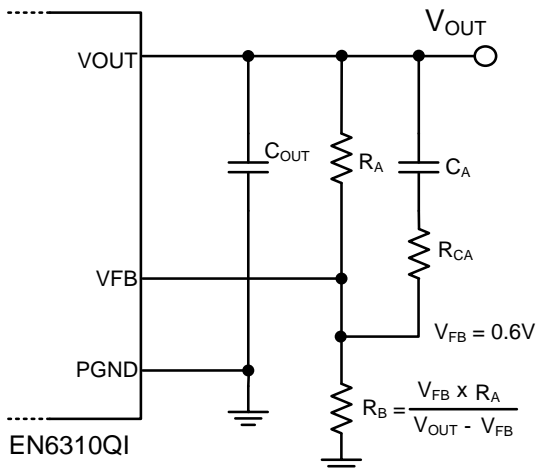

Figure 2. External Compensation
- 2) **Output Voltage Settings (J4)** – With a jumper placed as shown, output voltage is set to 1.2V. The jumper may be switched to change the output voltage from left to right (3.3V, 1.8V, 1.2V and 1.0V). The output voltage may also be adjusted by changing R_B (R4) as shown in Figure 2.